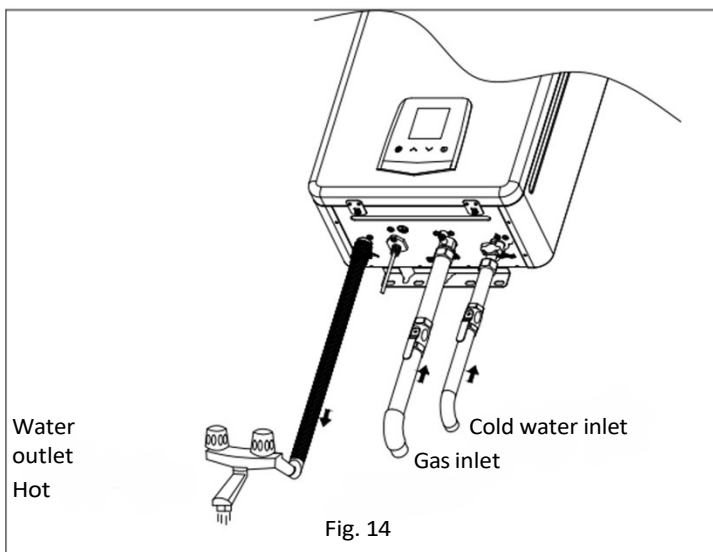

Fig. 14
2. Installation of water and gas pipes (Fig. 14)
(1) When facing the water heater, the cold water inlet is on your right and the hot water outlet is on your left. Even if the water pipes in your installation are not made of copper, we recommend using copper pipes for at least 0.92 m before and after the water heater (comply with local codes). The diameter of the water inlet pipe must be at least 1/2 inch to allow for maximum flow.
(2) Remember that the water pressure must be sufficient to activate the water heater when you draw hot water on the top floor. If the hot and cold connections to the water heater are reversed, it will not work. 1/2-inch copper or brass fittings are best suited for the connectors. Flexible connectors make installation easier and ensure that the water valve is watertight thanks to a washer-type seal at the joint. Do not use sealant or sealing tape on this connection. Make sure there are no particles or dirt in the pipes. (Fig. 14)
(3) The water pressure must be sufficient to activate the water heater. The maximum pressure for the appliance is 14 bar, even taking into account the effects of water expansion, and the water pressure in the appliance must not exceed this value.